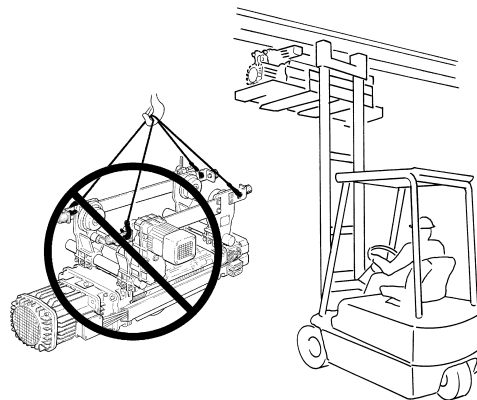

Figure 3-13 Proper Method for Lifting
- 5) **WARNING** When installing the trolley hoist on a beam, ALWAYS raise the hoist into position with the trolley and hoist assembled together and securely attached to a pallet. Raise the trolley and hoist with a forklift, lifting platform, or other similar means. NEVER use slings to raise and install the trolley hoist onto the beam (see Figure 3-13).